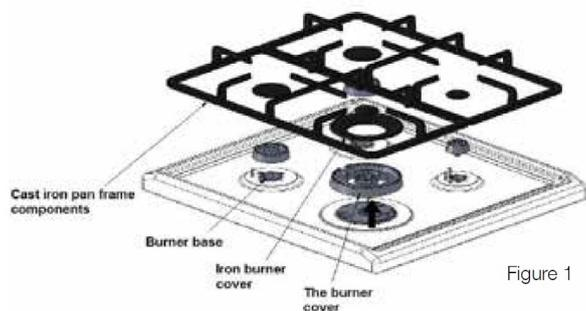

Figure 1
### Removing the trivets (Refer Figure 1)
- Open the door to the full extent (fig. 1)